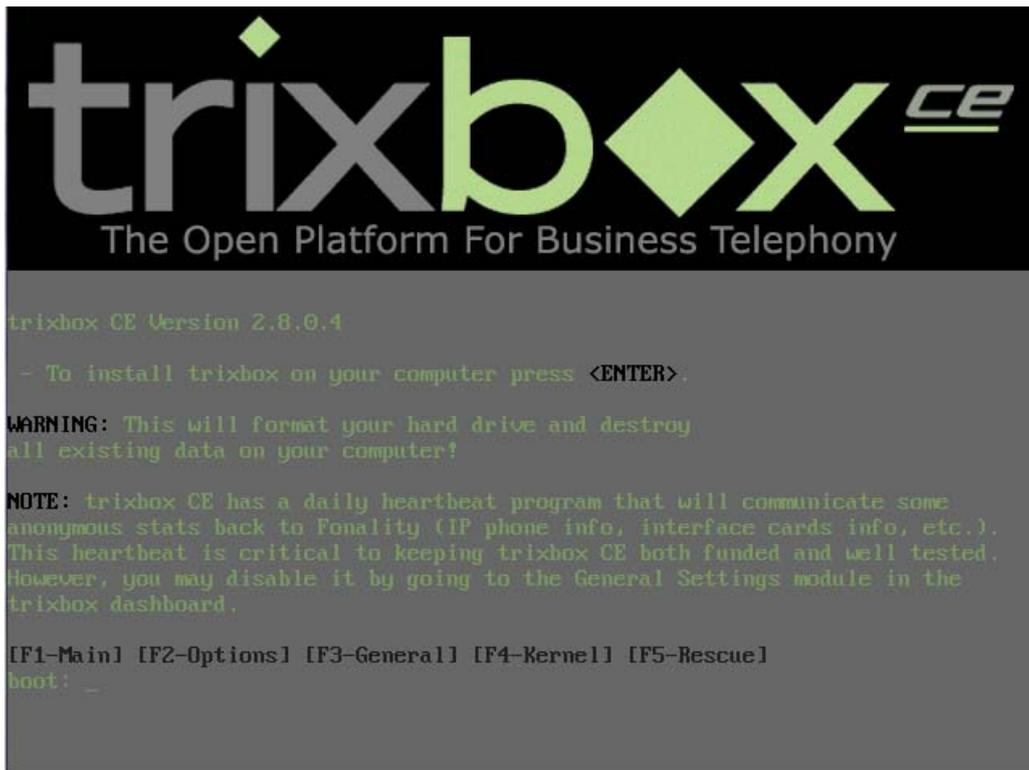

Figure 1
- a) The system will go into the CD guide after the PC being started. Then the following interface will be shown on the screen. See Figure 1. Press Enter directly to select the default installation mode.